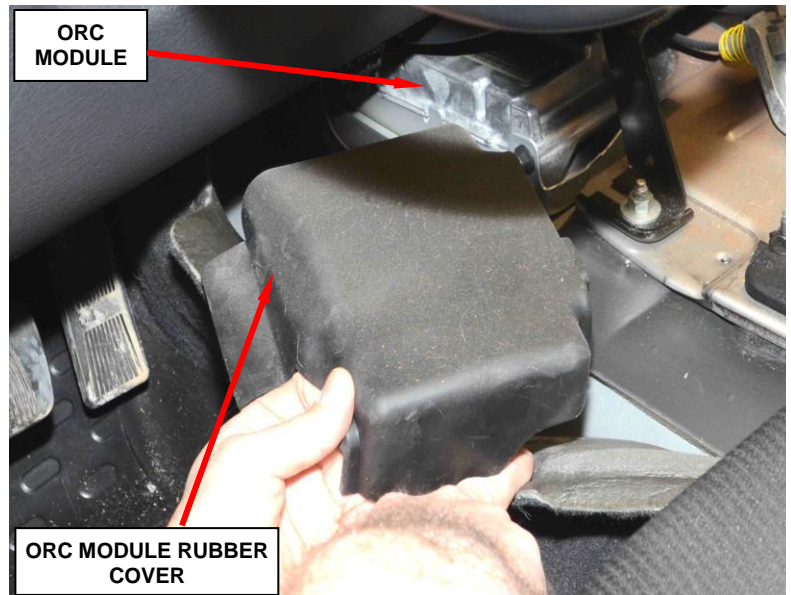

Figure 9 – ORC Module Rubber Cover
21. Place the ORC module rubber cover into position over the ORC module (Figure 9).